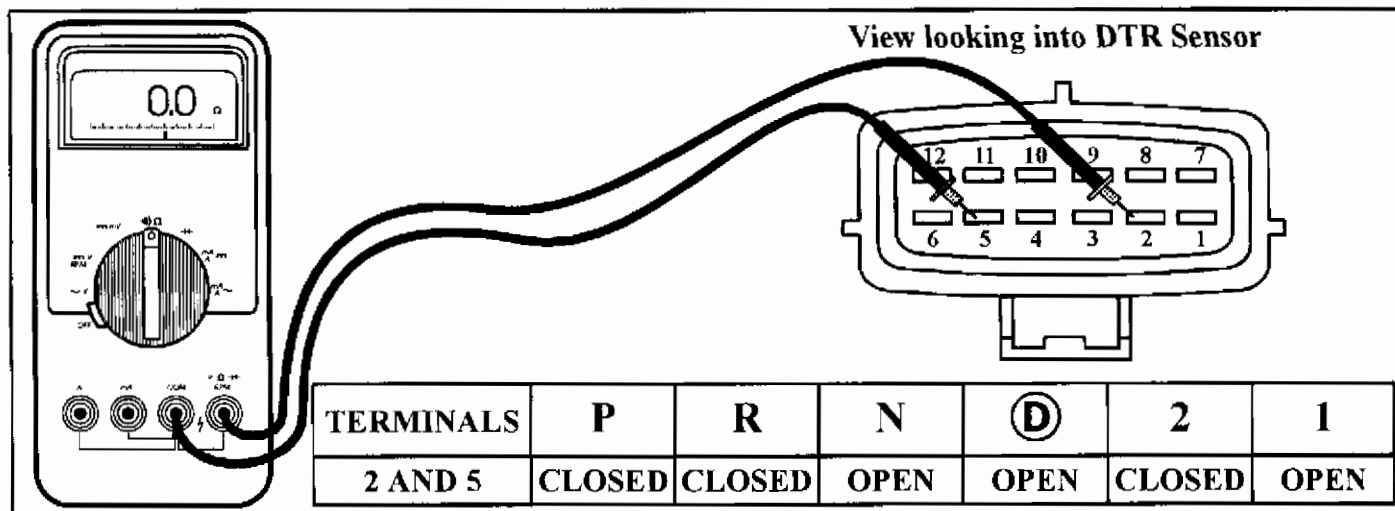

Figure 6
- (3) Testing the transmission range 2 switch is done across pins 2 and 5 of the DTR sensor, and must be checked in each selector position to determine switch integrity. Refer to Figure 6.